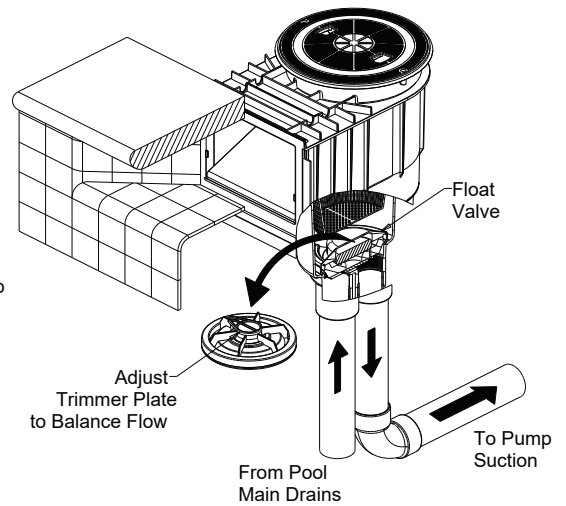

Figure 5: Typical residential installation with float valve. Use with at least two main drains.
(See Figure 5). Move trimmer plate to side to open trimmer port allowing more flow through skimmer and less flow through main drains, or other skimmers; close trimmer plate for less flow through skimmer and more flow through main drains, or other skimmers.
3. Size suction pipe based on the design flow rate such that the water velocity in the pipe will not exceed six feet per second. To increase system flow capacity for long pipe runs, use multiple pipes (both ports) or larger pipe (2.5" spigot, or 3"/4" adapter bushing #BFB101). See figures 5 and 7 piping layout.